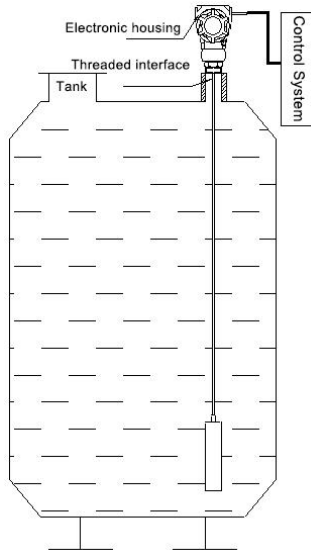

Figure 2 Threaded installation
- (1) The high temperature transmitter has an installation structure such as interface thread, flange, etc., which can be flexibly selected according to the site. This example is the $M35 \times 1.5$ thread installation method, as shown in Figure 2.
- (2) When the level transmitter is installed, it can be put into water or other liquids, and the cable is led out from the wiring terminal in the shell to the display instrument, secondary instrument or control room.
- (3) Choose a place that is easy to operate and maintain for installation.
- (4) Install as far away as possible from the vibration source.
- (5) When the level transmitter is installed, the probe should sink into the bottom of the container.
- (6) The probe should be placed in the water vertically, and the angle with the vertical line should not exceed 30 degrees.
- (7) If there are many impurities in the liquid medium, it is recommended to select a filter screen cover.
- (8) The cable part on the ground needs to be protected or elevated.
- (9) If used in moving water, the level transmitter should be fixed.
- (10) The probe should be cleaned regularly to avoid blockage of the pressure inlet.
- (11) The accumulation of water in the capillary tube will cause inaccurate measurement and unstable output. You can take out the gas collecting bucket regularly and drain the capillary tube to eliminate the fault.